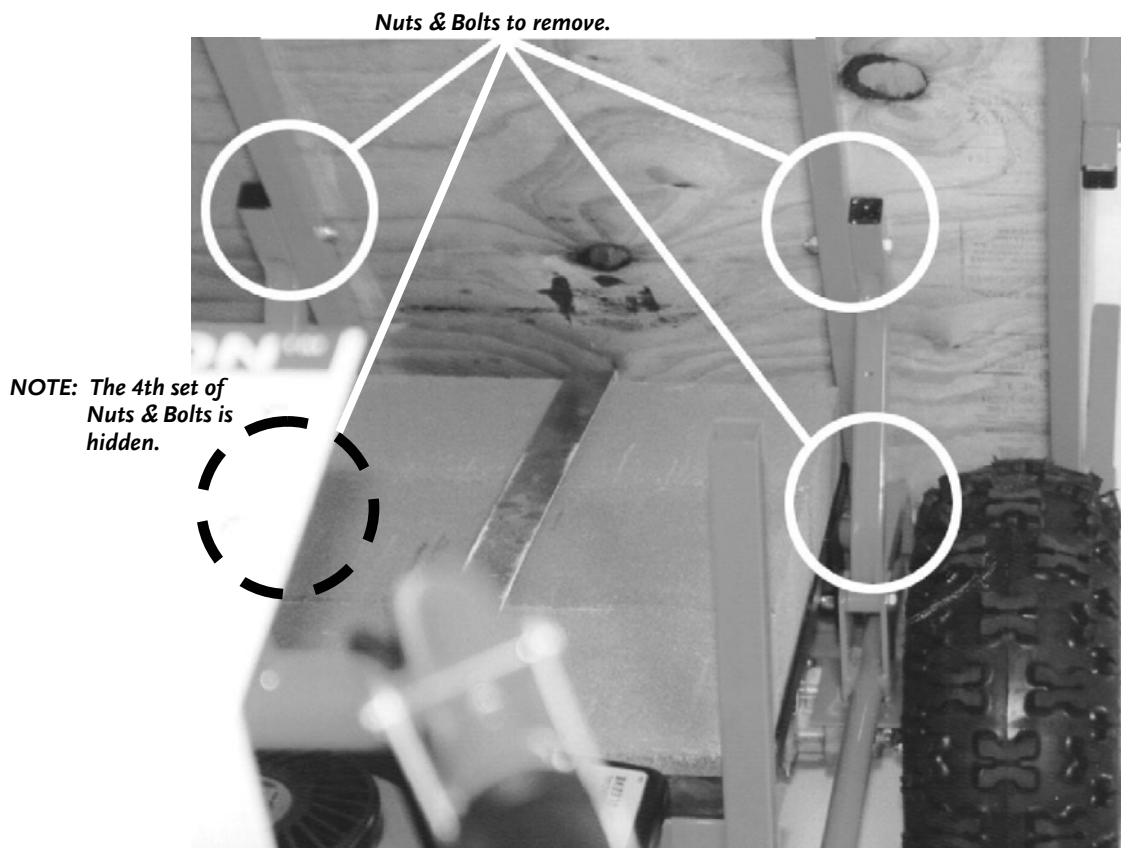

Figure 29
3. Remove the four (4) sets of Nuts and Bolts securing the Body (**Figure 29**).